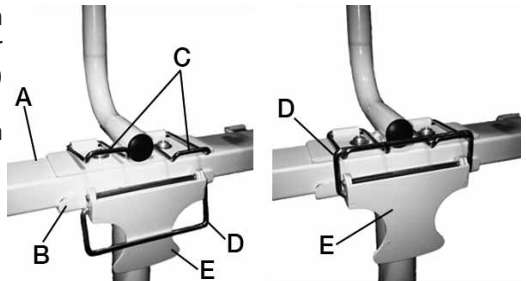

FIGURE 6
1. Place the work light assembly on the top of the tripod. The bottom of the base cross bar (A) Fig.6 needs to be sitting in the bracket (B).
2. Place two buckles (C) as shown in Fig.6, lift the quick release latch (D) over both buckles (C) and lower the lever (E) to fasten them.